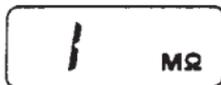

Fig 1
4. The built-in batteries are normal if the INSUL. TEST VOLT ON indicator (red LED) lights up and the LCD looks as shown in Fig. 1.
4. When the measurement object has resistance of more than 200 M $\Omega$  at 500 V or 20 M $\Omega$  at 15 V, the LCD shows the same over-input display as that displayed when the measuring terminals are open, as shown in Fig. 1 under section [4]4-2, “Checking the Built-in Batteries” on page 5.